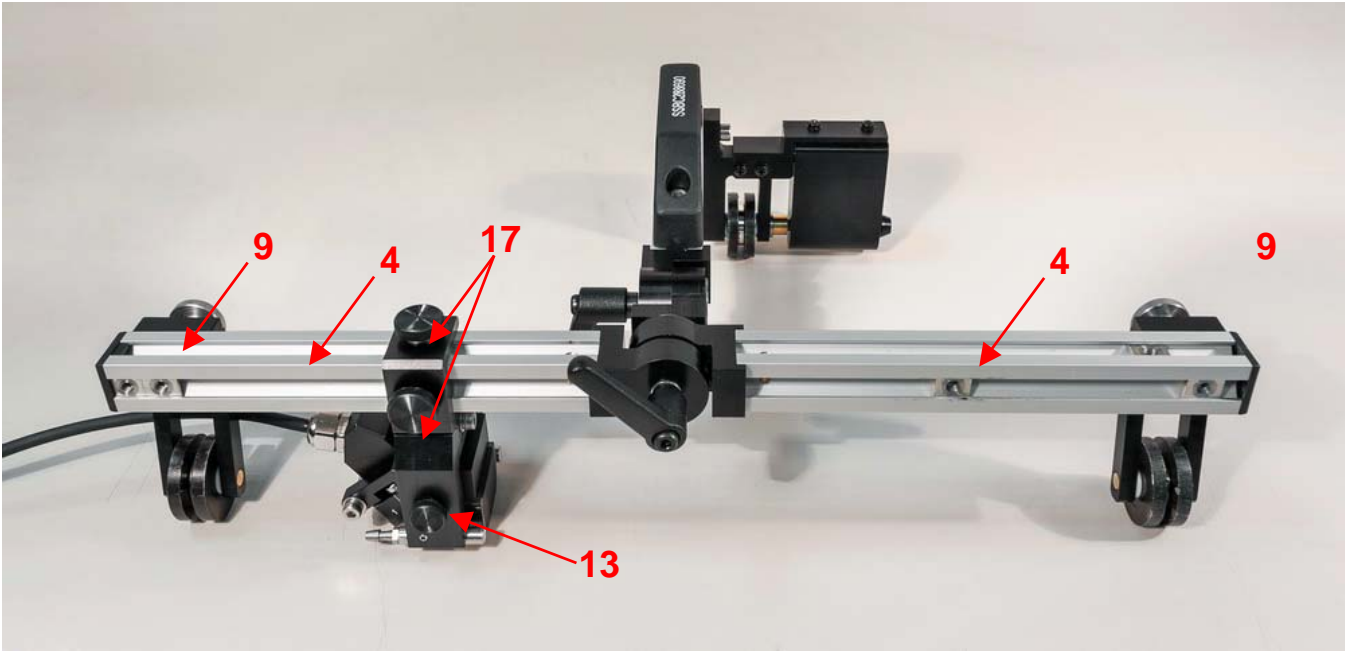

Fig.10
3. Attach Probe-Holder(s) [13] and wheels [9] to the scanner at the opposite sides of the rails, as it on the Fig. 10